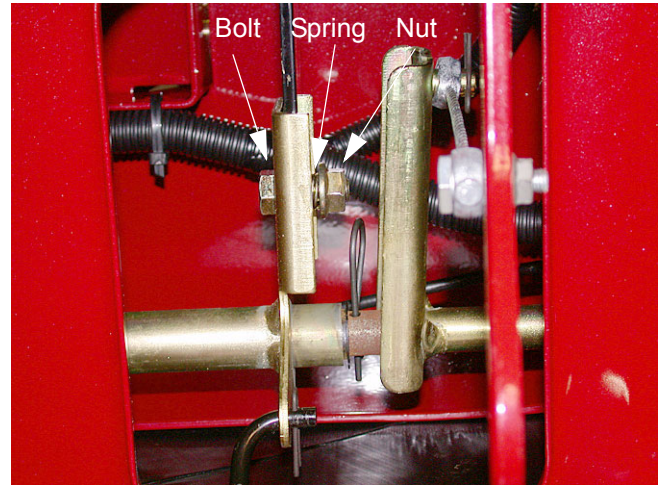

Figure 17.8
17.8. Using two 9/16" wrenches remove the bolt, nut, and spring on the brake handle on the left handle side of the deck lift shaft. See Figure 17.8.
17.9. Remove the hairpins securing the deck lift cables to the deck lift shaft. See Figure 17.8.